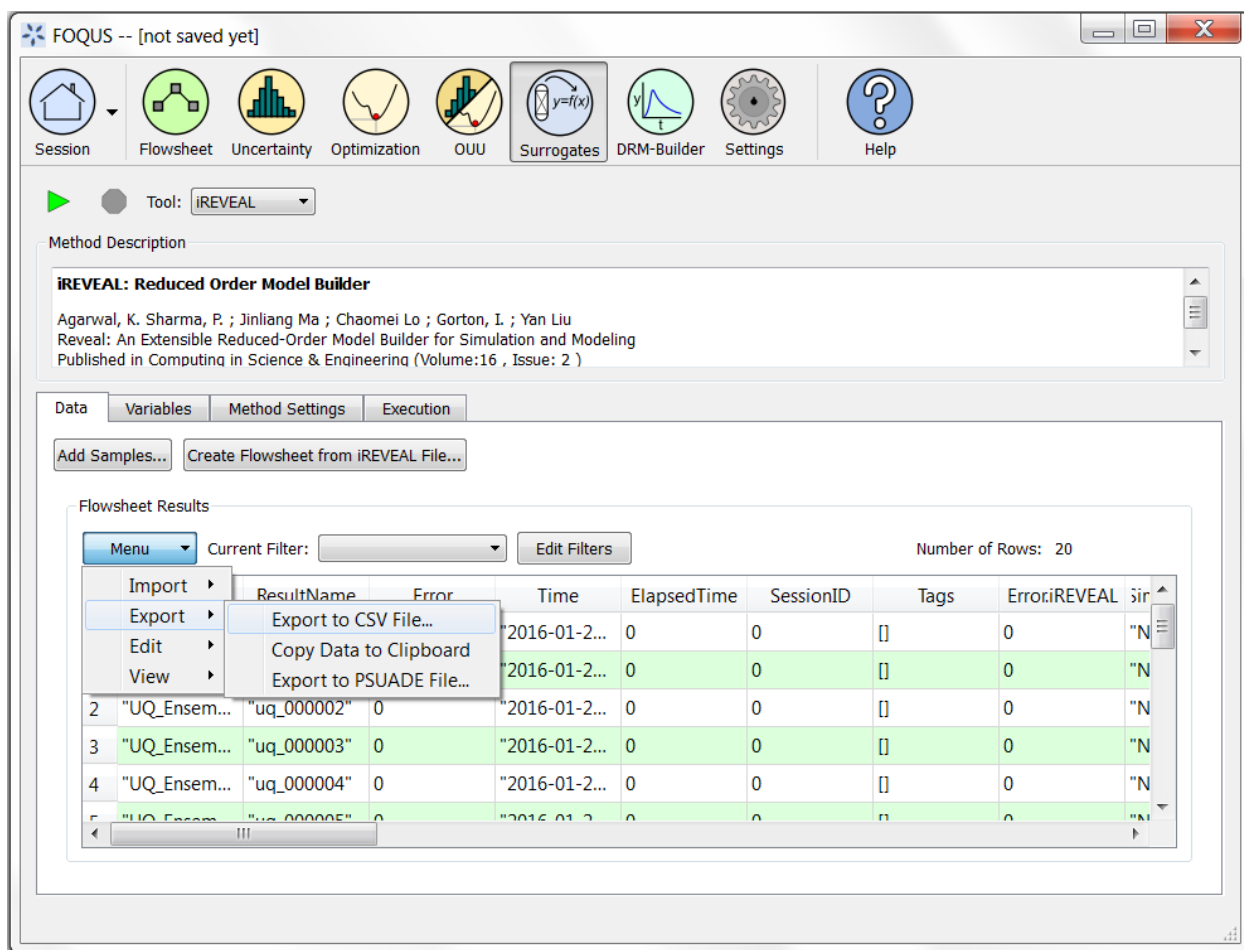

Figure 10: Visualize Response Surface: Export and Import Flowsheet Results
1. Open the “Data” frame under the “Surrogates” tab. Under the “Menu” option select “Export to csv file” to export the flowsheet to a csv file as shown in Figure 10. Let’s call this file “results1.csv”. Note that this file does not contain output parameter data.